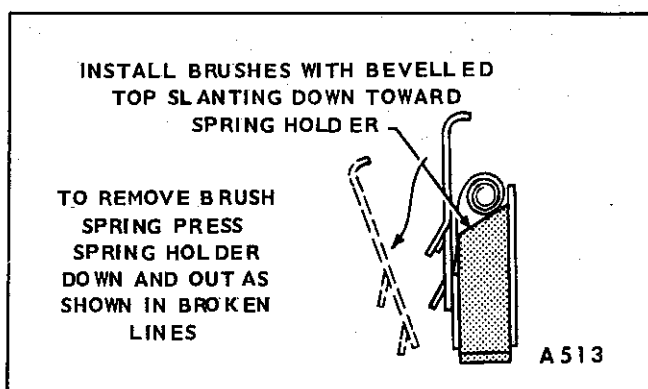

FIGURE 85. BRUSH REMOVAL
Armature Testing: Before testing remove all brushes from their holders (Fig. 85).
3. Remove the brush springs (Fig. 85).